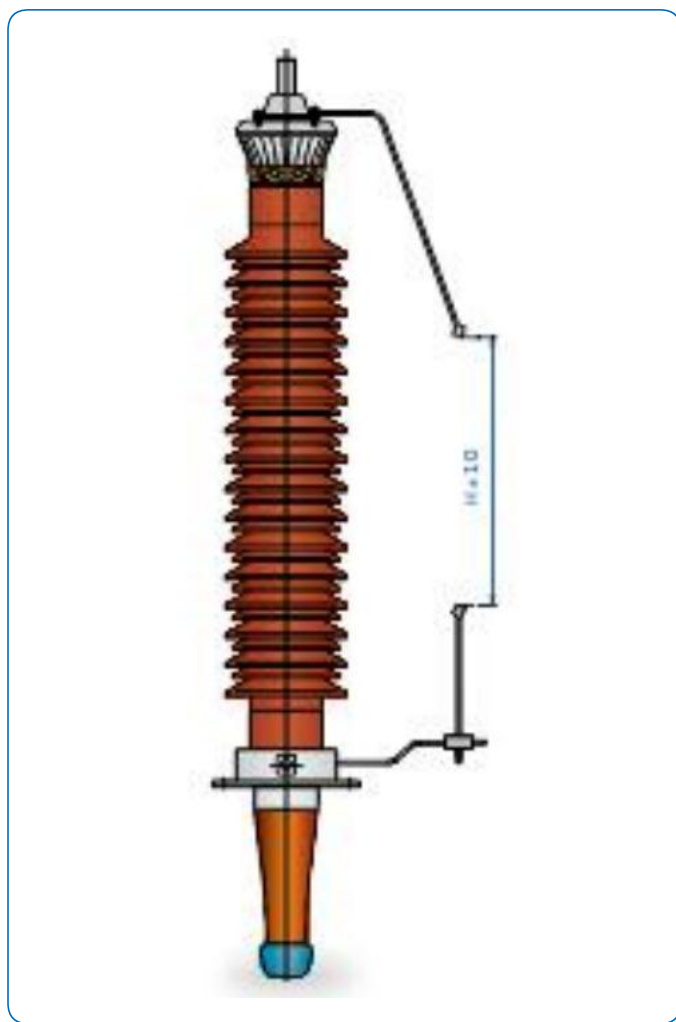

Fig. 5: Discharge distance for a bushing equipped with arcing horns
- Power factor tap, tested at 2 kV for 60 s (fig. 4), and/or voltage tap, upon request (fig. 5)